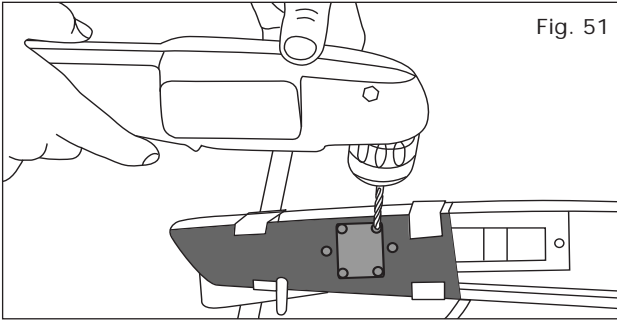

Fig. 51
- 56) Secure the rear finisher trim in an area that will not allow the finisher trim to move and will not damage the finisher trim. Carefully drill (6) holes in the indicated spots on the camera cut-out template with a 3/16" drill bit. (Fig. 51)